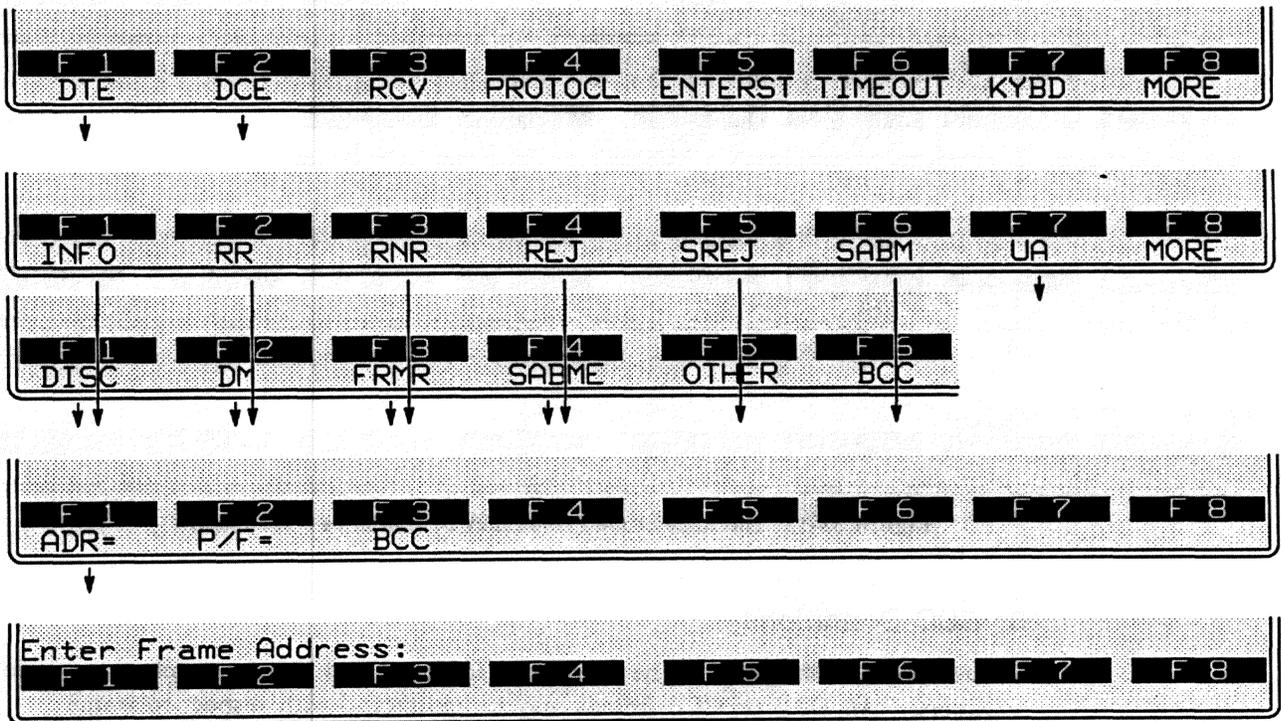

Figure 33-11 The hex value of the address byte is entered as two alphanumeric for *all* frame types.
5. *Address*. An address condition may be added to INFO, supervisory, unnumbered, and OTHER conditions. Press the softkey for ADR=, shown in Figure 33-11. Then enter the hexadecimal address octet as two alphanumerics. The address octet 01, for example, appears as follows:
To bypass the ADR= selection (as well as the other options on the same rack of softkeys in Figure 33-11) press **DONE**.